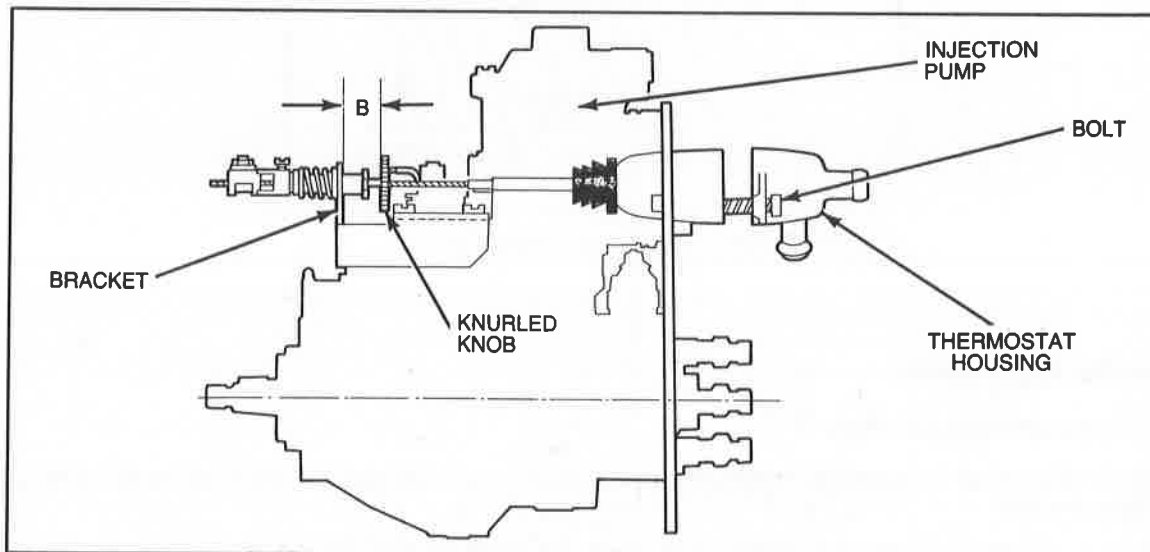

Figure 15 Dimension B
5. Again, measure and record distance between bracket and knurled knob (Fig. 15, Dimension B).